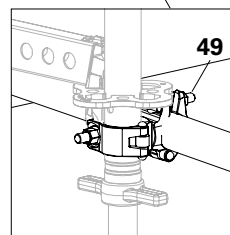

Fig. D7.06a
2. Install the inner tube or scaffold tube on the outer base standard (**23**) with a swivel coupling (**49**). Tighten the swivel coupling. (Fig. D7.06a)